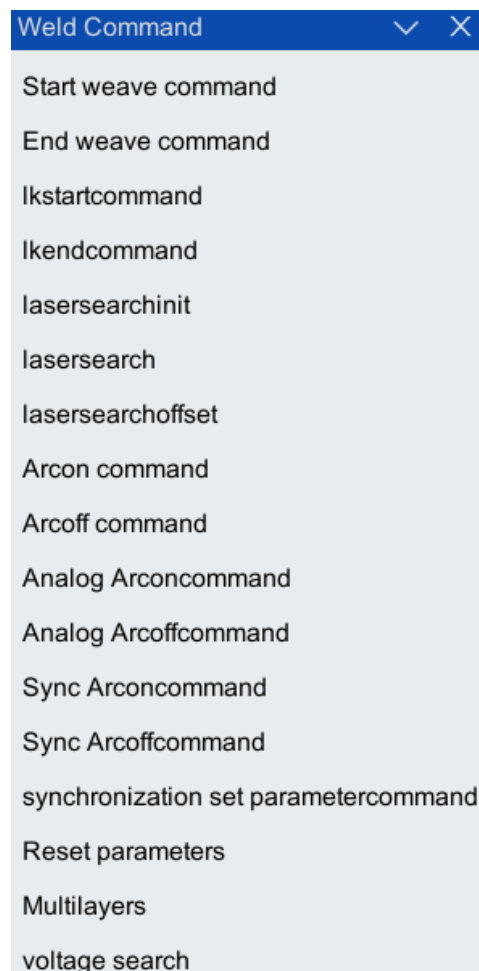

Figure 9-9 Arc on command menu
Step5. Click [Insert cmd/Function Pack/weld/Welding Command/Start weave command]. As shown in Figure 9-9.